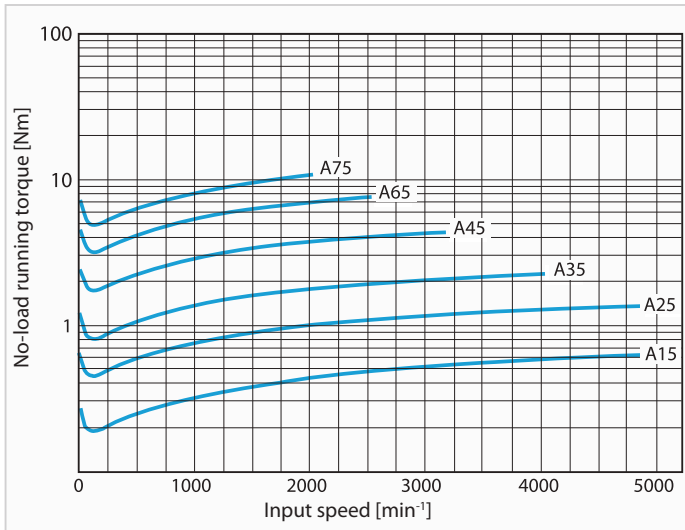
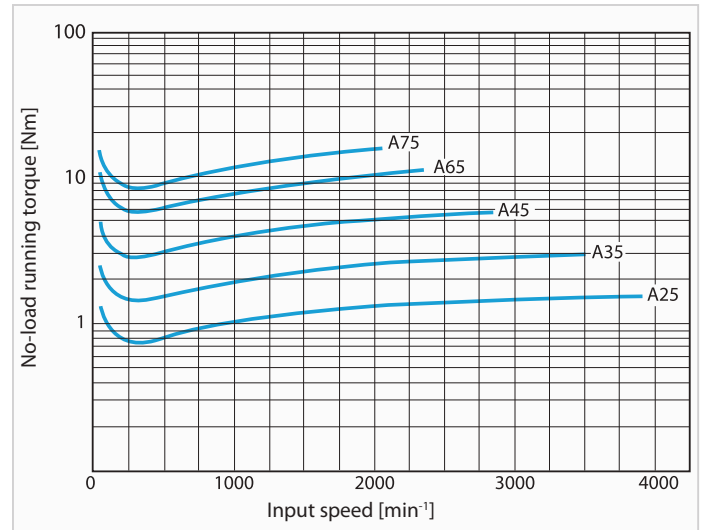

Fig. A1 Input side no-load running torque (i 59-119)
Fig. A2 Input side no-load running torque (i 29)
1. Fig. A1 and Fig. A2 show the average no-load running torques after gearbox is run in (not new condition)